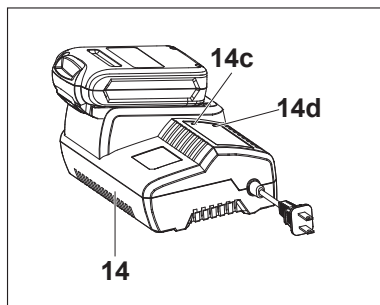

Fig. 6
The indicators (14c, 14d) on the charger (14) show the charging status (Fig. 6).